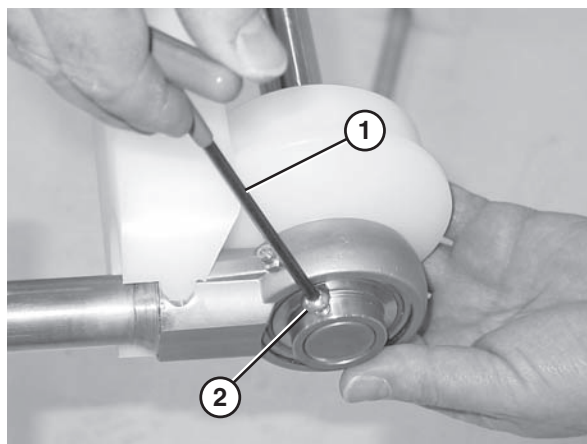

Figure 72
4. Use a hex wrench (**Figure 72, item 1**) to loosen the bearing shaft assembly fasteners (**Figure 72, item 2**).